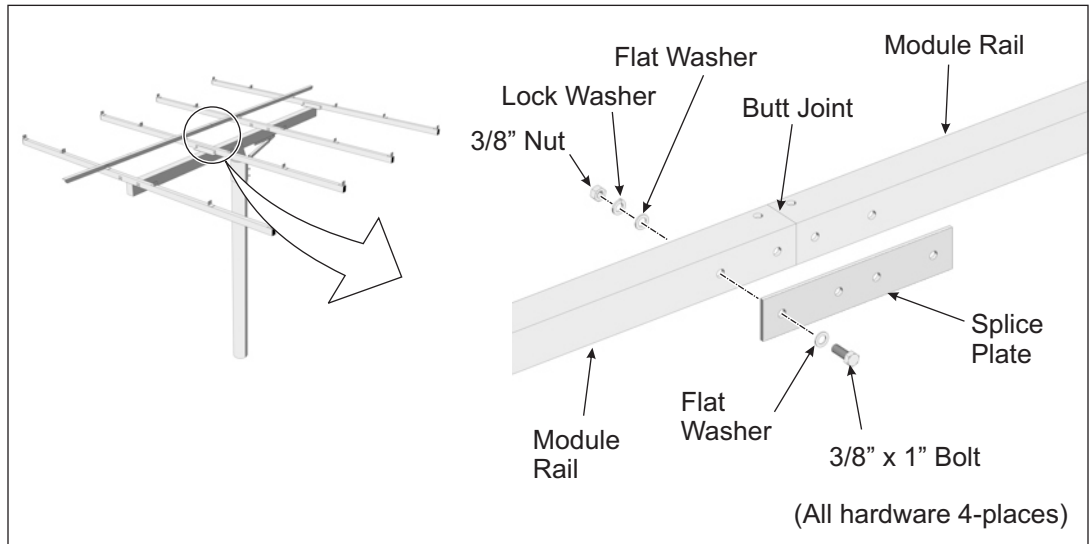

Figure 4-4: Attaching the Splice Plate to Module Rails
- C. Install a Splice Plate at butt-joint of the two Module Rails. Align the four holes of the Splice Plate with the four holes (two on each end of the Module Rails) of the Rails and secure with 3/8" hardware. **Torque to 32-34 ft.-lbs.** (See Figure 4-4)